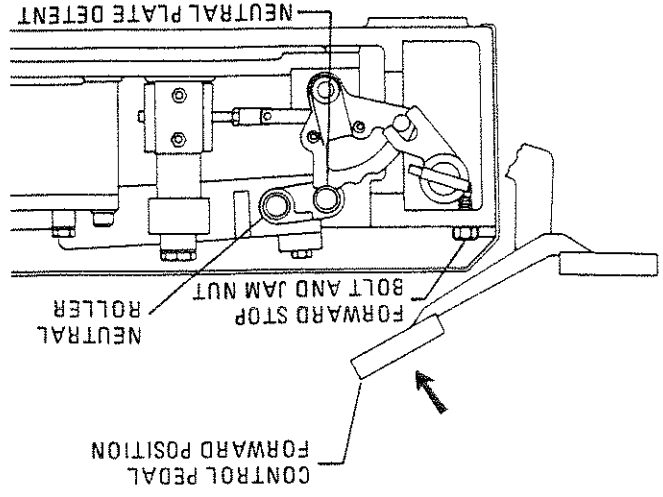

Figure 1-32.
3. Adjust the pedal forward stop bolt if necessary so that the roller rests in the middle of the detent. It should not go more than 1/16" past the middle. See figure 1-32.